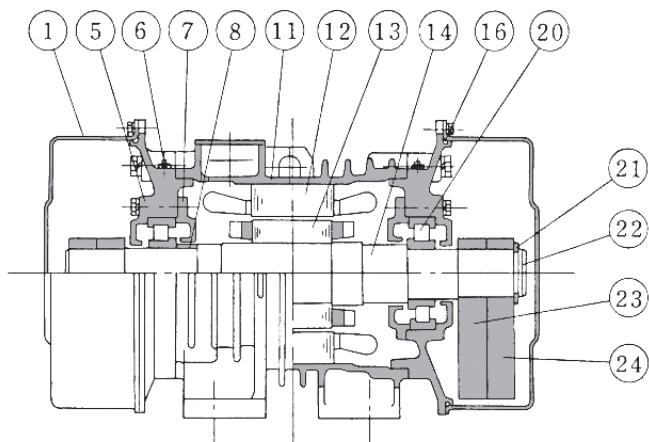

Fig. 2
7-2. Vibrator shown in Fig. 2 .....	- 19 -
Fig. 2 and 3 shows the construction of the enclosed Uras vibrators which are equipped with seal ring ⑮ between brackets ⑤ and weight covers ① to prevent foreign matter from getting inside.